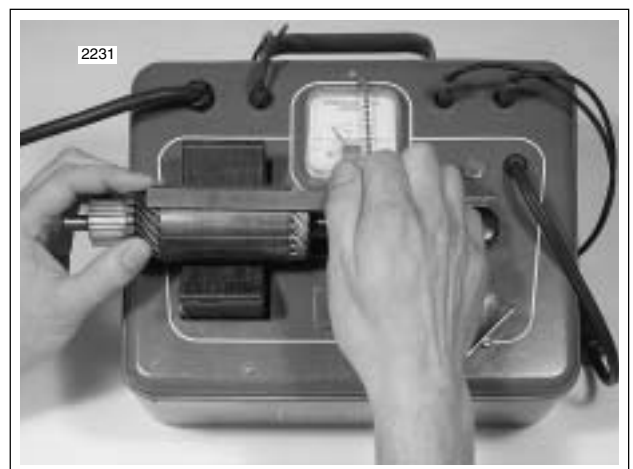

Figure 5-11. Shorted Armature Test Using Growler
10. See Figure 5-11. Check for SHORTED ARMATURE with a growler. Place armature on growler. Hold a thin steel strip (hacksaw blade) against armature core and slowly turn armature. A shorted armature will cause the steel strip to vibrate and be attracted to the core. Shorted armatures should be replaced.